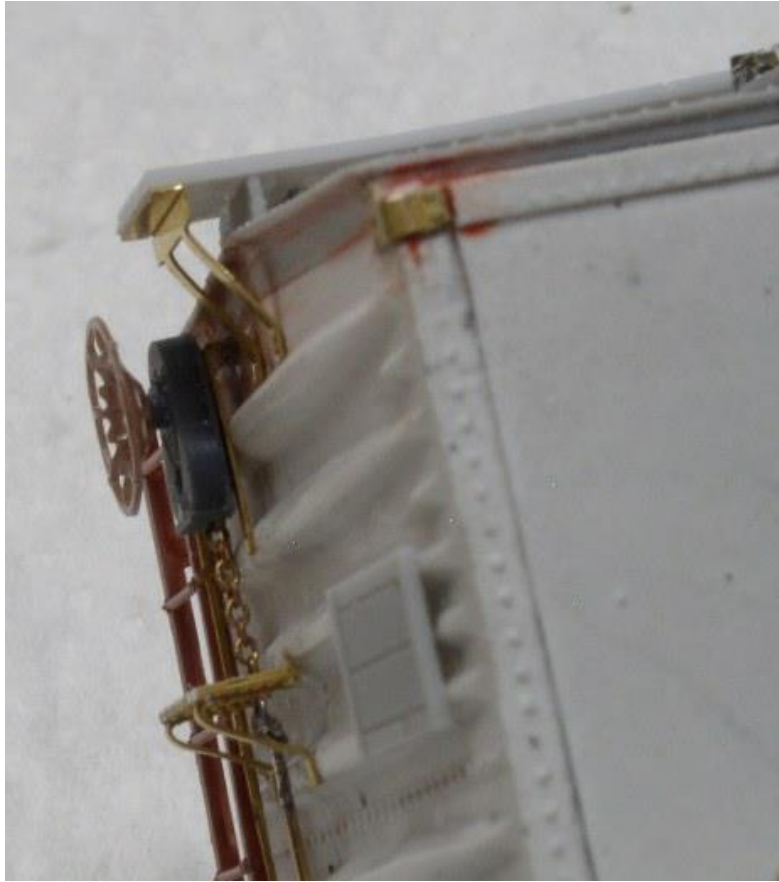

Figure E16
21. Bend the legs of the of the Running Board End Support backward and fold the feet forward. Install on the end of the running board. Do the same for the other end. See Figure E16.